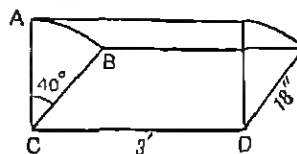

FIG. 31. HOPPER WINDOW
5. A hopper window, 3 ft. by 18 in., swings inward about its lower edge, CD. If the angle is  $40^\circ$ , find the length of the arc AB and the area of glass in the side cheek ABC, Fig. 31. (The side openings are protected by glass screens.)